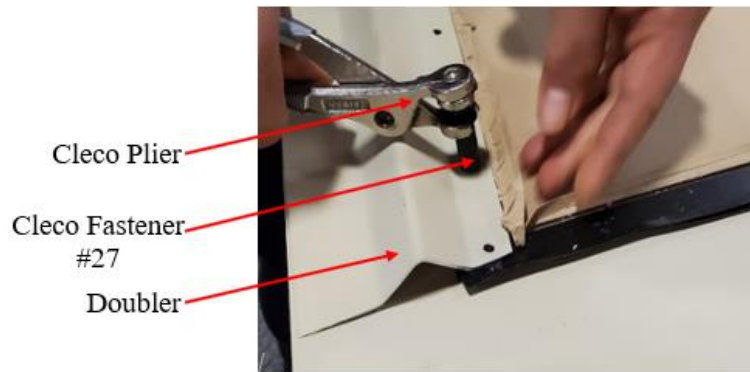

Figure 7: Reinstalling Doublers
13. Place new Door Window 10838-7 (L/H) on doorframe and reinstall Doublers. Make holes through the tape. Cleco pliers and Cleco fasteners can be used to hold Doublers in place as shown in Figure 7.
12. Place new Rear Cockpit Door Window 19636-9 (L/H) on doorframe and reinstall Doublers. Make holes through the tape. Cleco pliers and Cleco fasteners can be used to hold Doublers in place as shown in Figure 7.
11. Place new Rear Cockpit Door Window 19636-10 (R/H) on window frame and reinstall Doublers. Make holes through the tape. Cleco pliers and Cleco fasteners can be used to hold Doublers in place as shown in Figure 7.